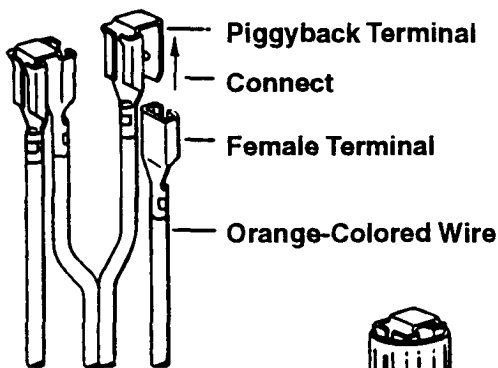

Figure 5
- 13.) Connect each orange wire to one of the piggyback connectors. (See Figure 5).